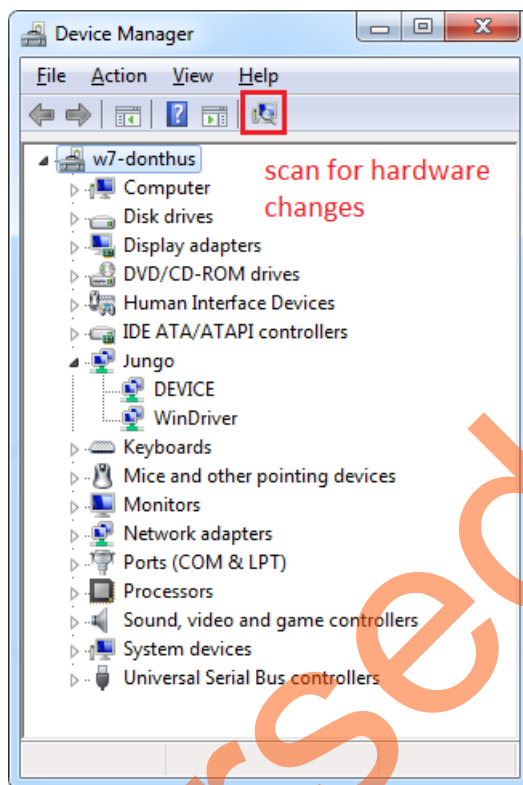

Figure 17 • Scan for hardware changes option in the Device Manager window
1. Check the Host PC **Device Manager** for the drivers. Figure 17 shows the **Device Manager** window highlighting the Jungo drivers installed.